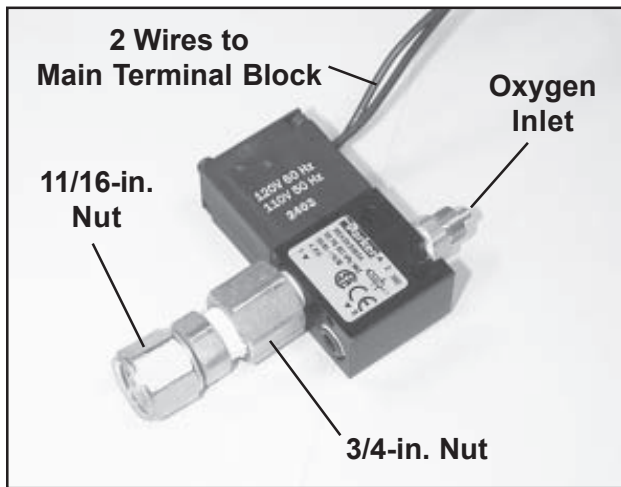

Figure 136. Solenoid Valve
8. The solenoid valve is connected to the rear of the flow meter by straight-thru fittings and three nuts (Figure 136). Unscrew the nut behind the flow meter with a 11/16-in. wrench until it comes free from the flow meter.